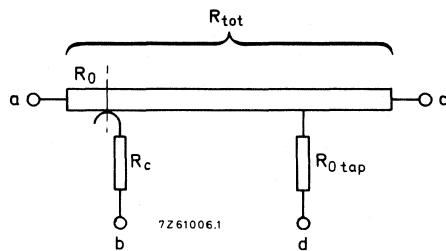

Fig. 3 Diagram of potentiometer; spindle in fully counter-clockwise position.
**Terminal resistance (or residual resistance)** — Minimum resistance that is be obtained between either end terminals a or c and the wiper terminal b when the wiper is in end stop position. (Fig. 3).
**Maximum attenuation** — Maximum attenuation when the potentiometer is used as an attenuator (see Fig. 3).